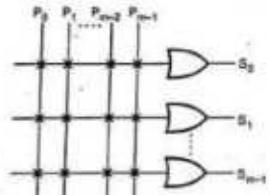

Fig. 7.12.9 Simplified representation of OR matrix
- Fig. 7.12.9 shows the simplified representation of OR matrix.